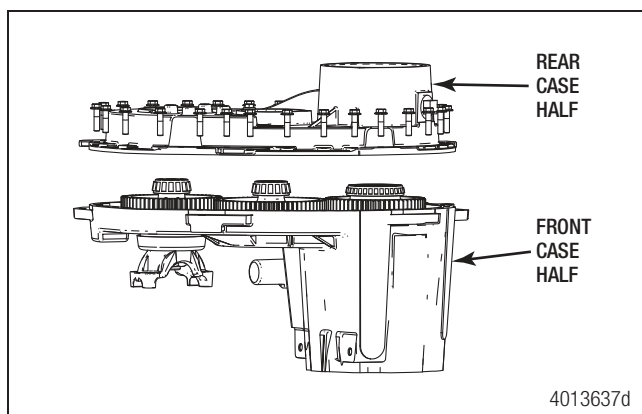

Figure 7.23
5. Lower the rear case and install it on the front case. Use the dowels on the front case to help align the bolt holes. Figure 7.23.